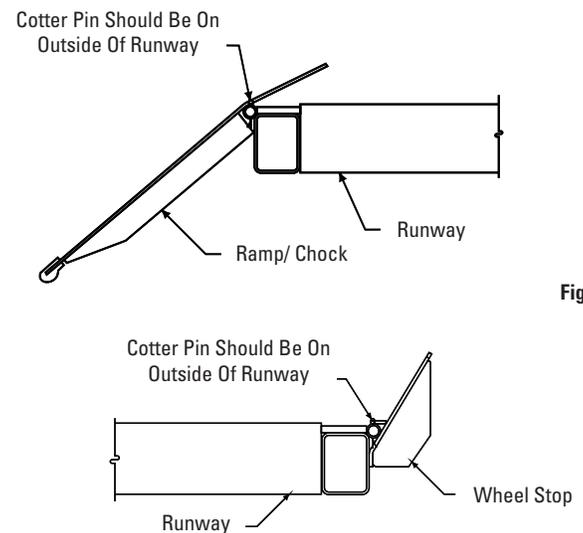

Fig. 29
21. Assemble ramp/chocks and wheel stops to runways using hinge pins and cotter pins. Ramp chocks go on rear and wheel stops go on front of runway, Fig. 29.